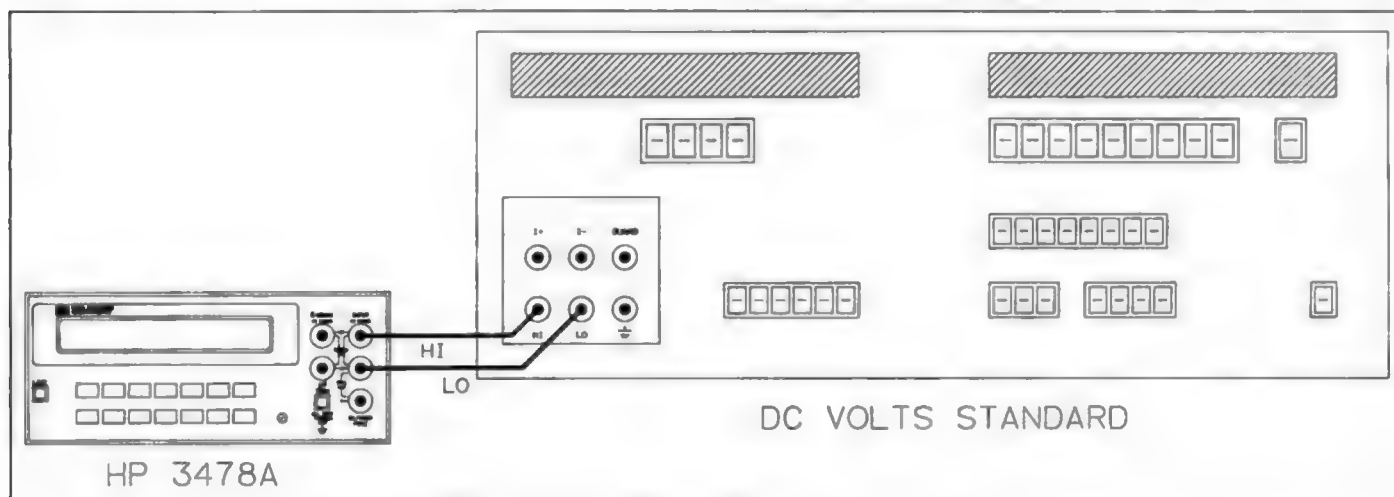

Figure 4-2. DC Voltage Test and Calibration Connections
g. Connect the DC Volts Standard output to the 3478A input terminals as shown in Figure 4-2.